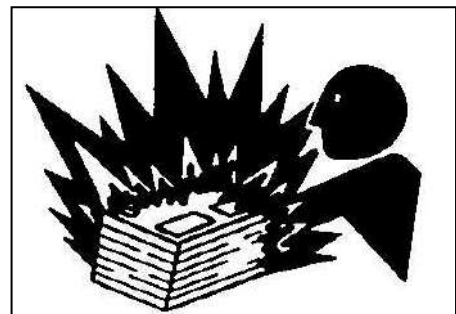

Figure 3.3.12
1. When battery is used or charged, mixed gas which is made up of oxygen and hydrogen gas will be discharged from exhaust hole. Avoid flame or spark close to battery. Electricize battery at the well-ventilated area. Place the machine on dry & hard ground, not on steel plate, otherwise it may cause spark accidently. Never connect anode and cathode directly, otherwise it will cause short circuit. (As figure 3.3.12)